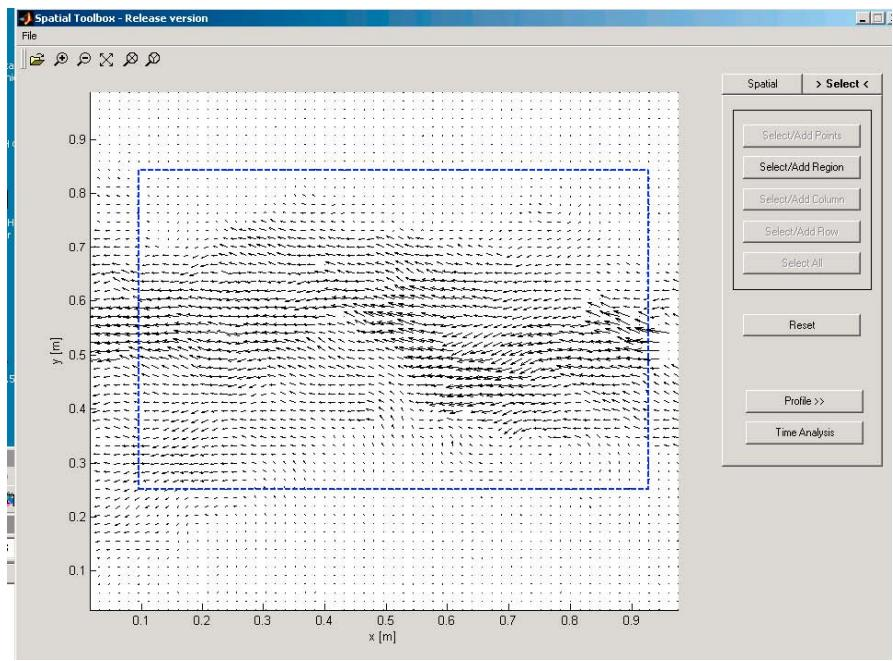

Figure B-16
1. Select a region as described in “Selecting Options for Analysis” and shown in Figure B-16. You could select a set of points, rows, columns, regions or the entire map.